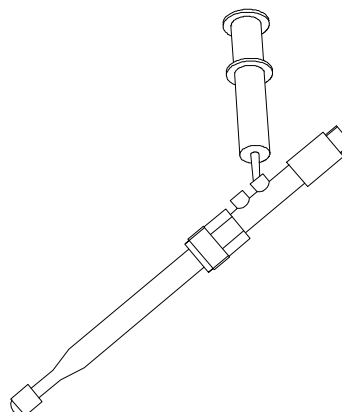

Figure 2
② Fill in both compartments with the electrolyte supplied with the instrument (see reference in appendix A). This handling should be done with the electrode slightly inclined for the electrolyte to current regularly without any air blocked in the electrode. (see Figure 2).
- If there is any bubbles trapped, obturate both inlets with the caps removed in step ① and shake slightly the electrode to remove the air.